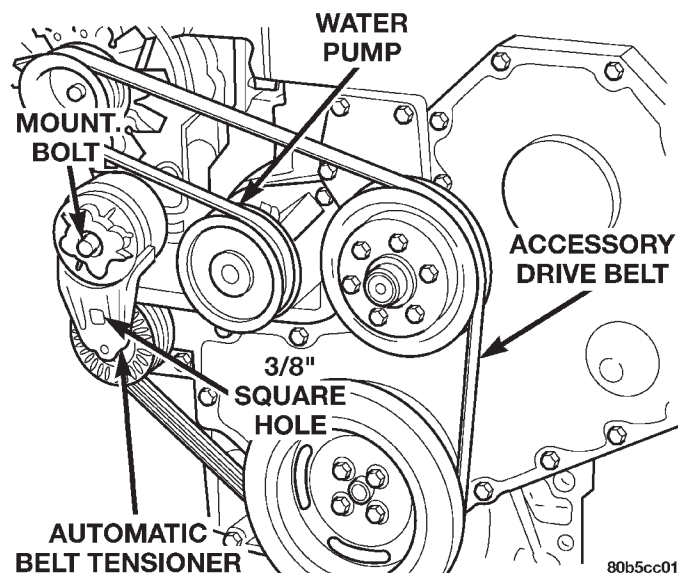

Fig. 20 Belt Tensioner—Typical (non-A/C shown)
Drive belts on diesel engines are equipped with a spring loaded automatic belt tensioner (Fig. 20). (Fig. 20) displays the tensioner for vehicles without air conditioning.
- (1) A 3/8 inch square hole is provided in the automatic belt tensioner (Fig. 20). Attach a 3/8 inch drive-long handle ratchet to this hole.
- (2) Rotate ratchet and tensioner assembly counter-clockwise (as viewed from front) until tension has been relieved from belt.